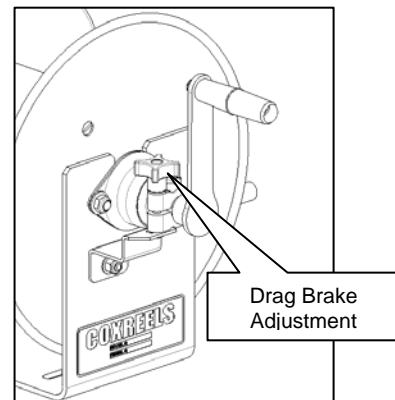

Figure 4
- Adjust drag brake. Turn clockwise to increase tension and counter-clockwise to decrease tension. See **Figure 4**.